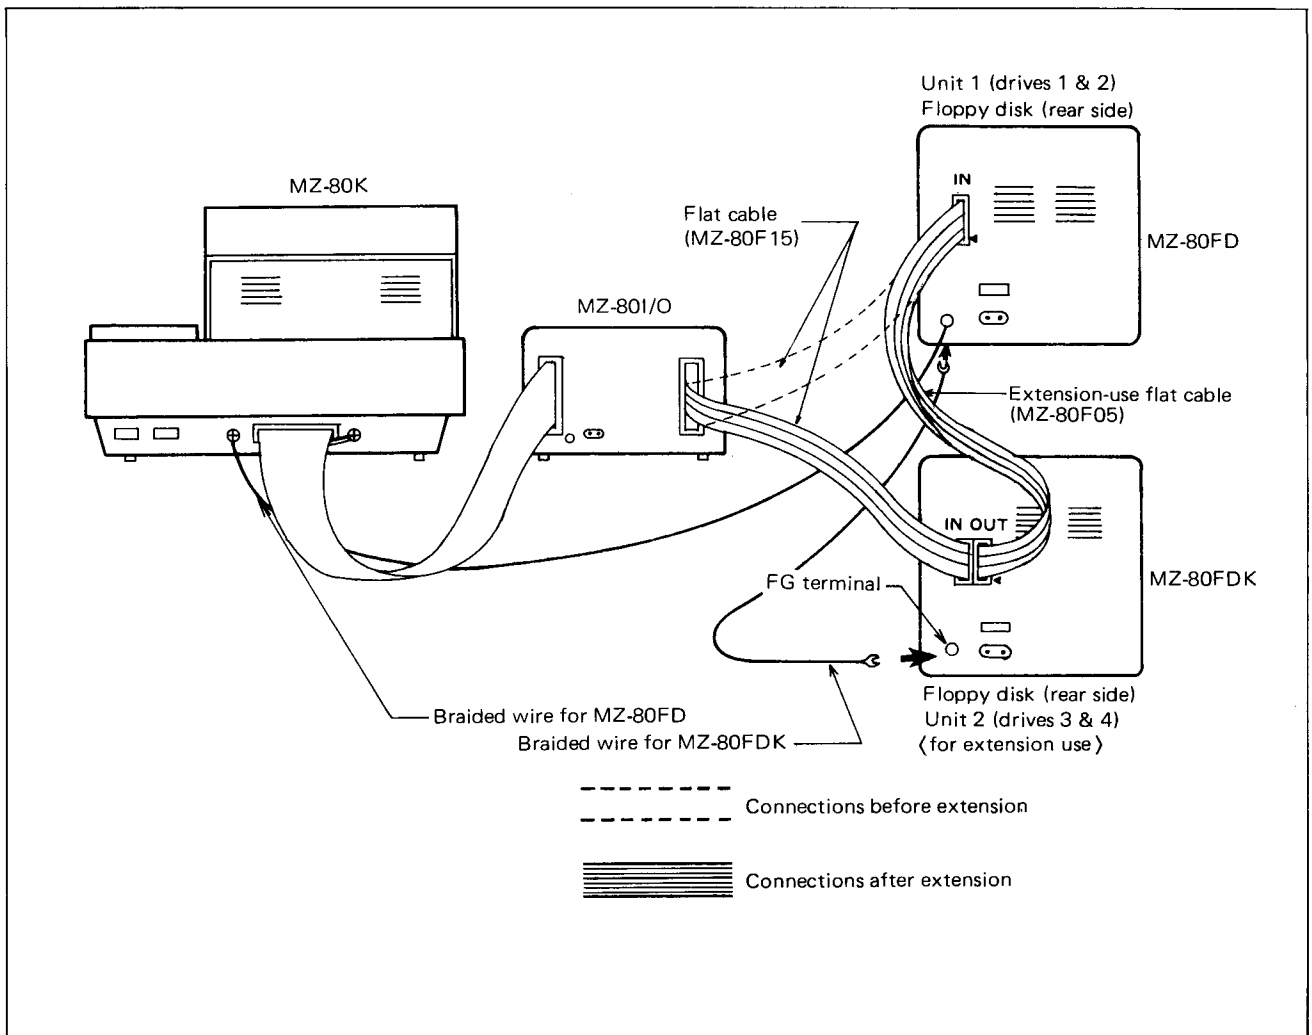

Fig. 4 How to Extend the Floppy Disk
- b) Connect the flat cable removed in a) above to the input connector (IN) of unit 2 (drives 3 & 4) which is for extension use. (See Figure 4.)
- d) Connect another connector of the said flat cable to the input connector (IN) of unit 1 to which the flat cable removed in a) has been connected.